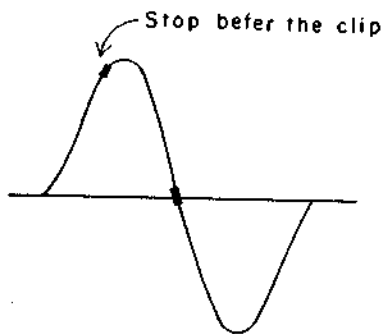

Fig. 134
- 4) Stop with IF AGC volume before the waveform is clipped (Fig. 134).